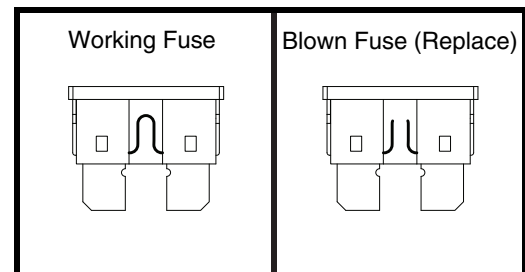

Figure 26. Fuse Replacement
2. Examine the fuse to be sure it is blown. See figure 26.